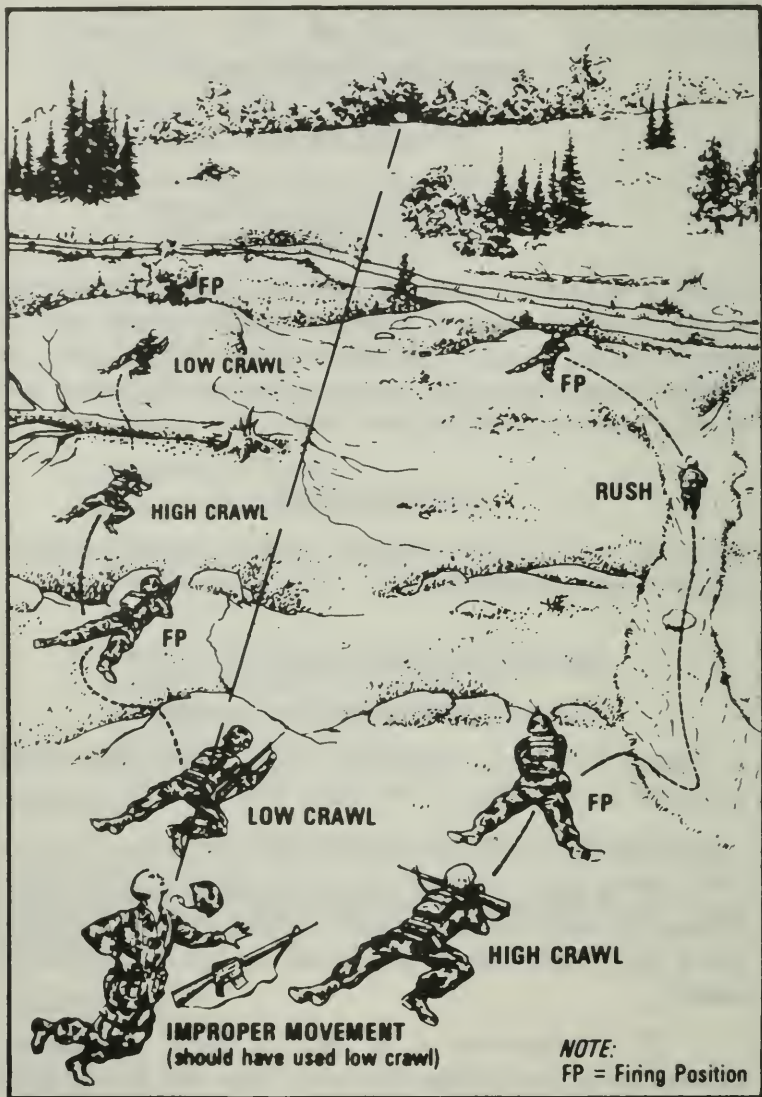

Figure 206. Individual movement route.
1. Select individual movement route within your team or squad route or axis of advance (Figure 206).